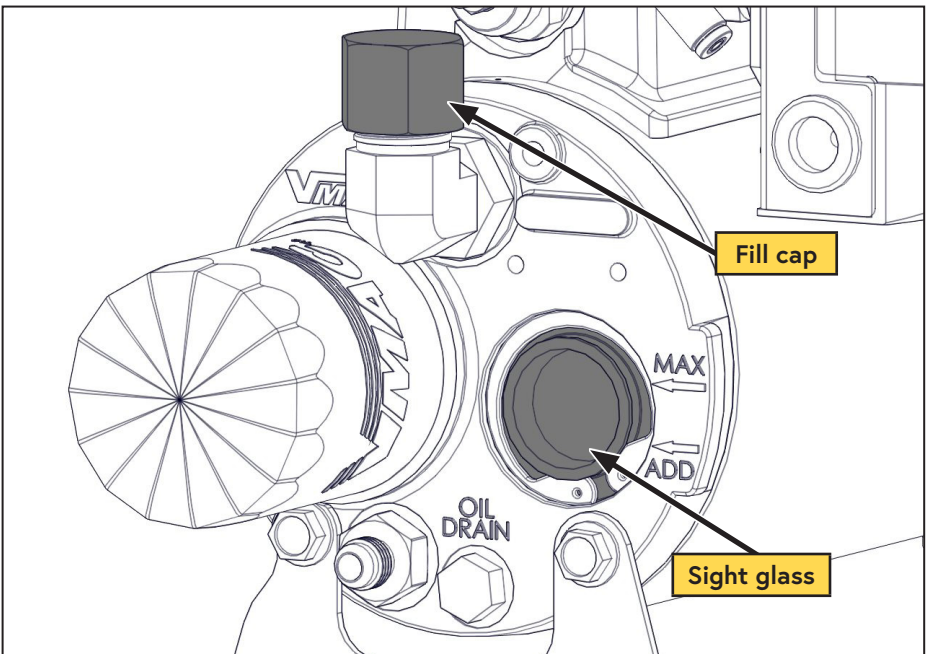

Figure 50 — Filling the WHASP Tank
- Remove the fill cap on the WHASP Tank (above the sight glass) (Figure 50).
- Using a funnel, pour oil into the tank until the oil level in the sight glass reaches the "MAX" line. **The system capacity is 4 L** (Figure 50).